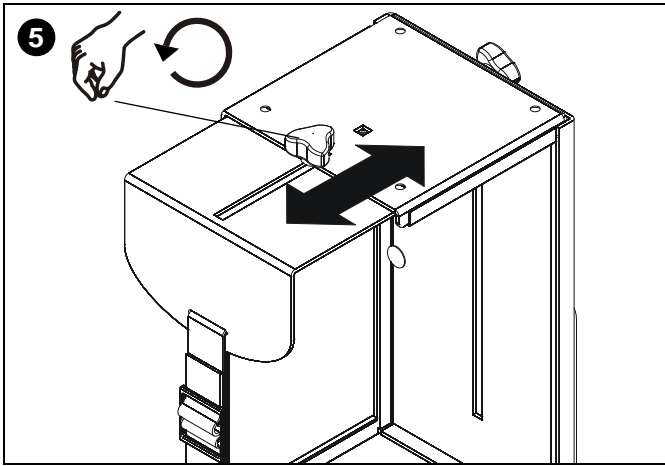

Figure 5
5. Loosen adjustment knobs on top and bottom of the mount and slide flanges in order to allow for the CPU to be inserted for mounting. (See Figure 5)
CPU's to be installed. (See Figure 5)